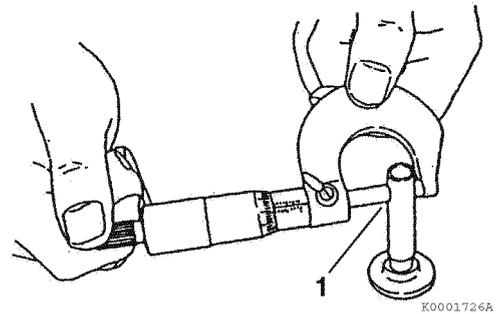

Figure 6-78
2. Measure the outside diameter of the tappet stem (1, **Figure 6-78**). See *Tappet* on page 6-14 for the service limit.